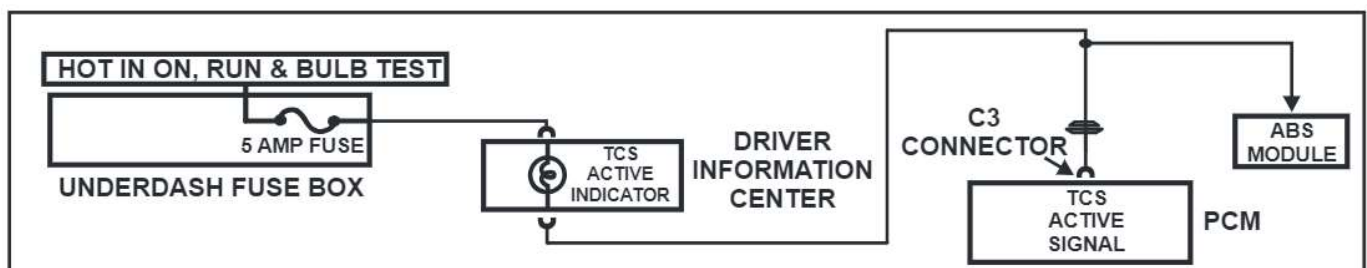

Figure 147
- Disconnect the C3 connector from the PCM, (Refer to Figure 147). With a DVOM, probe the traction control circuit and ground. If the circuit has battery voltage on it, replace the PCM. If the circuit has less than 1 volt or zero volts, repair the wire or connector terminal.
- The PCM receives a signal from the traction control system (ABS Module) indicating that a traction control event is occurring. This signal is either battery voltage, indicating traction control is not active, or less than 1 volt, indicating traction control is active, (Refer to Figure 147).